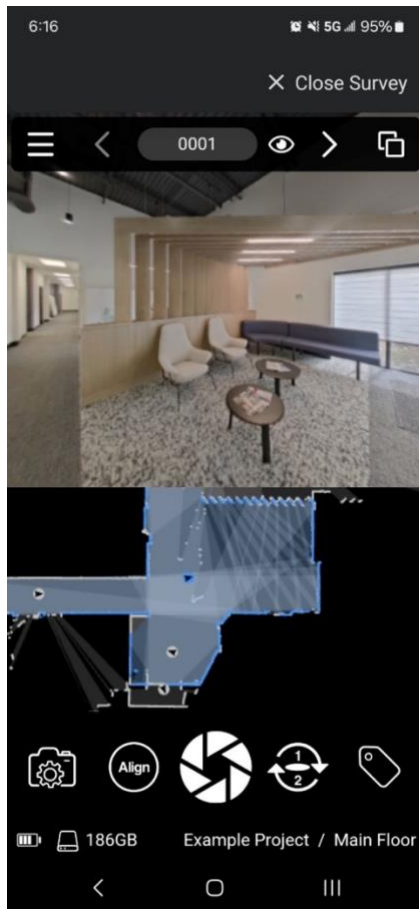
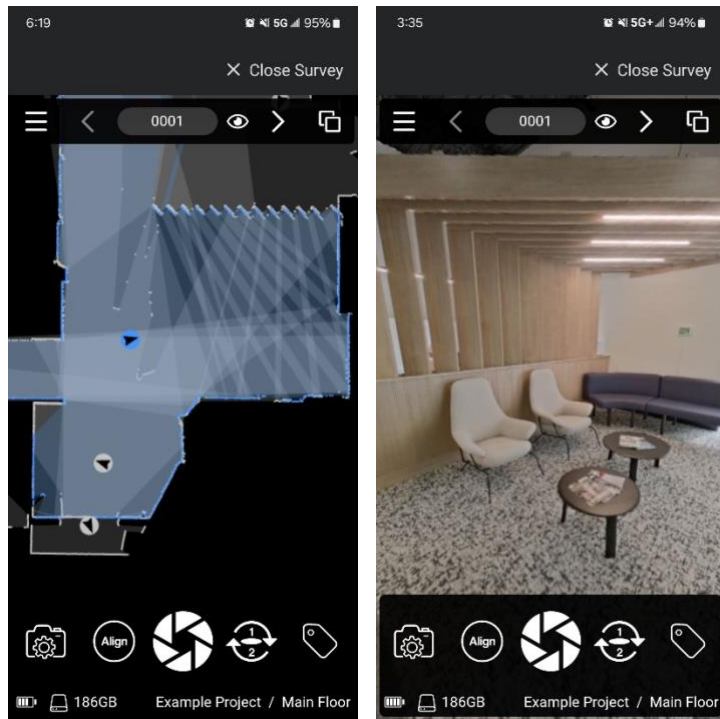

Figure 11 - Survey screen (split display)
Figure 16 - Laser display (left), Pano display (right)
2. Tap the **Scan** button  (see Figure 11) and wait for the chime on your device. A 360° image and laser scan data will be captured simultaneously.
2. Tap the **Tag** icon in the bottom-right corner of the screen (see Figure 11 or 12).
1. Tap the **Two-Shot** mode button (see Figures 11 or 12).
1. Tap the **Align** button (see Figure 11 or 12).
1. Tap the **Change Display** button at the top right of the screen to enter Laser Display mode (see Figure 16).
2. Tap the button again to enter Pano Display mode (see Figure 16) and again to return to Split Display mode (see Figure 11).
2. Tapping the current scan name displayed at the top of the Survey screen (see Figure 16, "0001") will bring up the Edit dialogue where the scan name can be edited.
3. Additionally, the Scan menu can be used to select, edit, or delete a previous scan (see Figure 16).